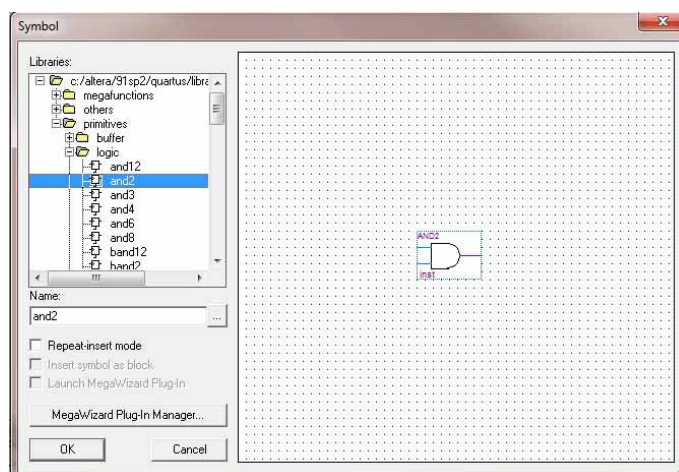

Figure 6-9
13. Now you are ready to enter the logic symbol. Click the Symbol Tool icon. A Symbol dialog box will appear with the library file **C:/quartus/libraries** shown in the Libraries Window. Click on the box with a plus sign to open that directory. Open subdirectories **primitives** and **logic** and select the **and2** symbol. (See Figure 6-9.)